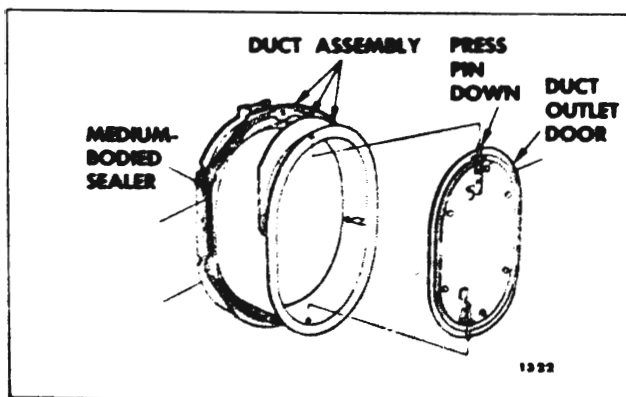

Fig. 5-3—Shroud Side Air Outlet Duct Assembly and Sealing
4. To install, apply a bead of medium-bodied sealer around entire inner flange of outlet assembly (Fig. 5-3) and reverse removal procedure.
2. Press down on upper door hinge pin (Fig. 5-3) and remove door assembly.